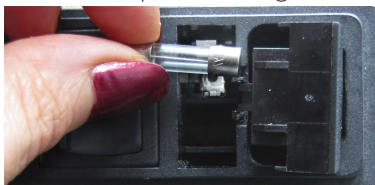

Fig. 65—Open the fuse housing and rotate it right to remove the fuse.
4. Pull the fuse housing out as far as it will go and rotate it to the right. There is a catch to keep the housing from coming completely out (Fig. 65).